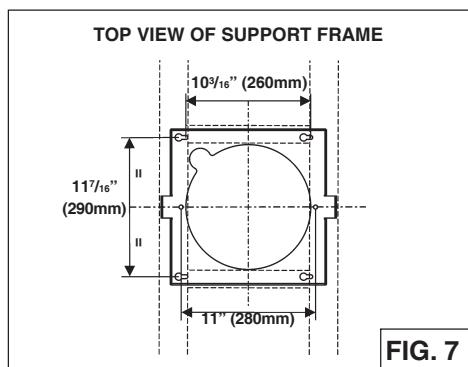

FIG. 7
- Mount the four 6x70mm screws to ceiling in the location shown in figure 7. Allow 1/4" clearance between screw head and ceiling (screws will be tightened later). Make sure the screws are driven into the center of joists and framing for maximum strength.